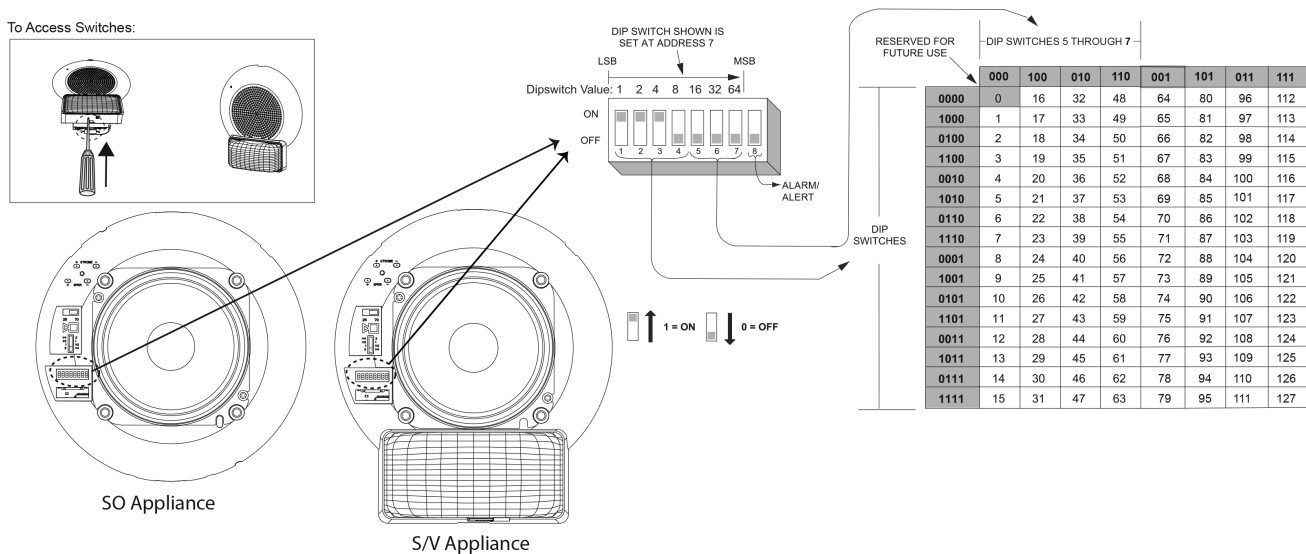

Figure 5: Setting the DIP switch address
1. Unclip the cover from the appliance by inserting a slotted screwdriver, or a similar sized object into the opening at either end of the cover. See Figure 5.
4. DIP switch position 8 determines whether this appliance is viewed by the system as an 'ALARM' (OFF) or 'ALERT' (ON) type of appliance. Confirm the setting for the appliance at this address with the FACP system configuration documentation.